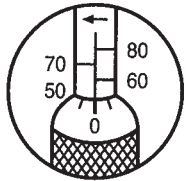

FIG1 50FT-LB
3. Lock handle securely by turning lock nut clockwise, and now wrench is set at 56 ft. Lbs which is ready to use. See Figure 1 and 2